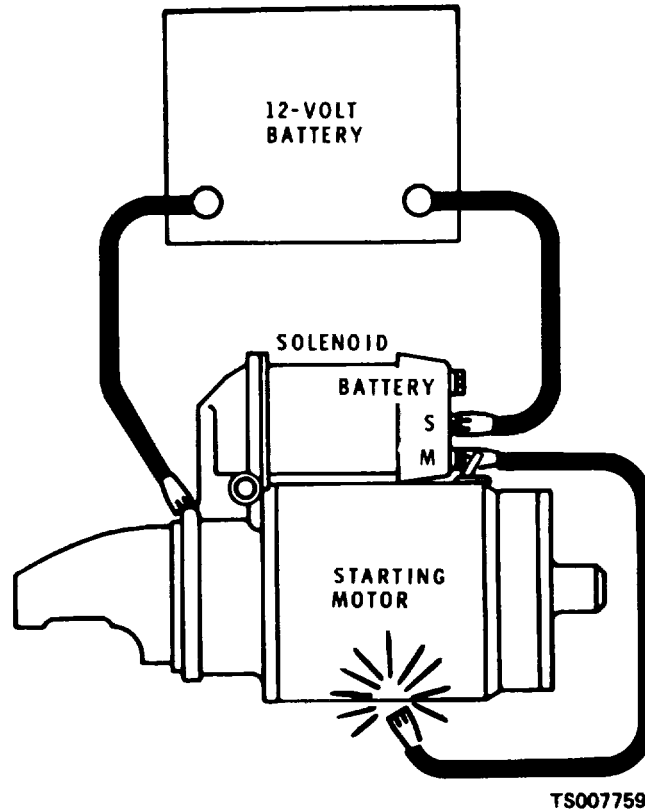

Figure 5-3. Circuit for Checking Pinion Clearance.
f. Check the pinion clearance after Reassembly by connecting the starting motor and a battery in the circuit (fig. 5-3). Disconnect the motor field lead from the solenoid motor terminal.